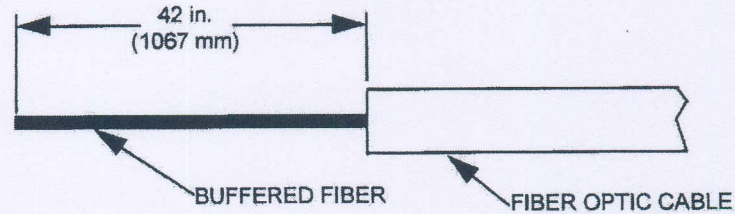

Figure 2. Preparing Fiber Optic Cables
1. Prepare the fiber optic cable(s) as shown in Figure 2.
2. Prepare the fiber optic cable(s) as shown in Figures 2 & 3.